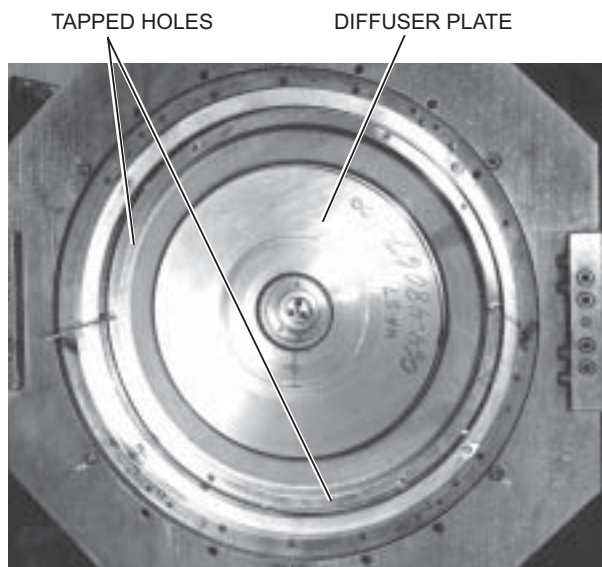

FIG. 25 – REMOVING DIFFUSER PLATE
2. Remove (2) of the (6) cap screws that secure the diffuser plate to the bearing housing. Insert guide pins where cap screws were removed. Loosen the (4) remaining cap screws (see FIG. 25). Insert jacking screws into holes provided to loosen diffuser plate from bearing housing.